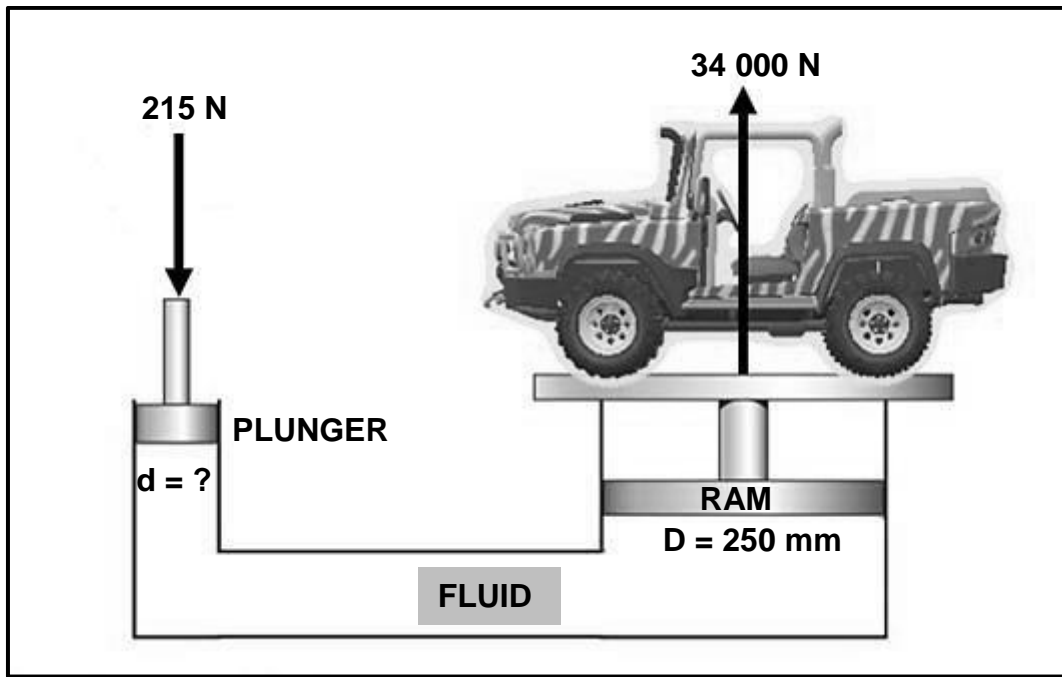

FIGURE 11.1
11.1 FIGURE 11.1 below shows a hydraulic lift. The lift needs to raise a maximum load of 34 000 N at the ram with a diameter of 250 mm. The force applied on the plunger is 215 N. Answer the questions that follow.